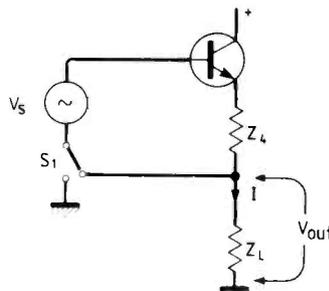

Fig. 7. Dumper output model.
applied to Z_4 , and it can be modelled by the output current I in the emitter follower circuit of Fig. 7 (with S_1 as drawn.)
But it does nothing to ensure that these coefficients remain constant as frequency varies, and disaster has in fact struck at this point. Indeed, simply by looking at (3) one can see that if Z_4 is an inductor then output current is inversely proportional to frequency. In circuit terms, what happens to the frequency response in Fig. 7 if Z_4 is an inductor?
The use of L and C in the bridge has resulted in a ferocious dependence of gain on frequency. The solution applied is the use of massive negative feedback, applied in the usual way by switching S_1 in Fig. 1. This can be modelled by switching similarly in Fig. 7. In this figure Z_4 now causes no attenuation of output across Z_L at low frequencies, but at 20kHz it may reduce output noticeably. Suppose we decide that at 20kHz we will tolerate a 0.1% reduction in output volts. Then if $Z_L=8\Omega$, $Z_4=0.36\Omega$ inductive, so $L=2.85\mu\text{H}$. Actually $3\mu\text{H}$ is fitted.